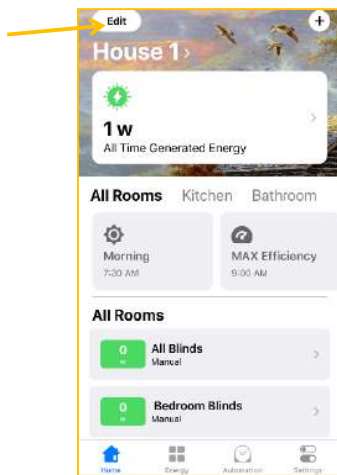

Figure 31
10.8.1. Click **Edit** tab in the top left corner to start (Fig. 31).